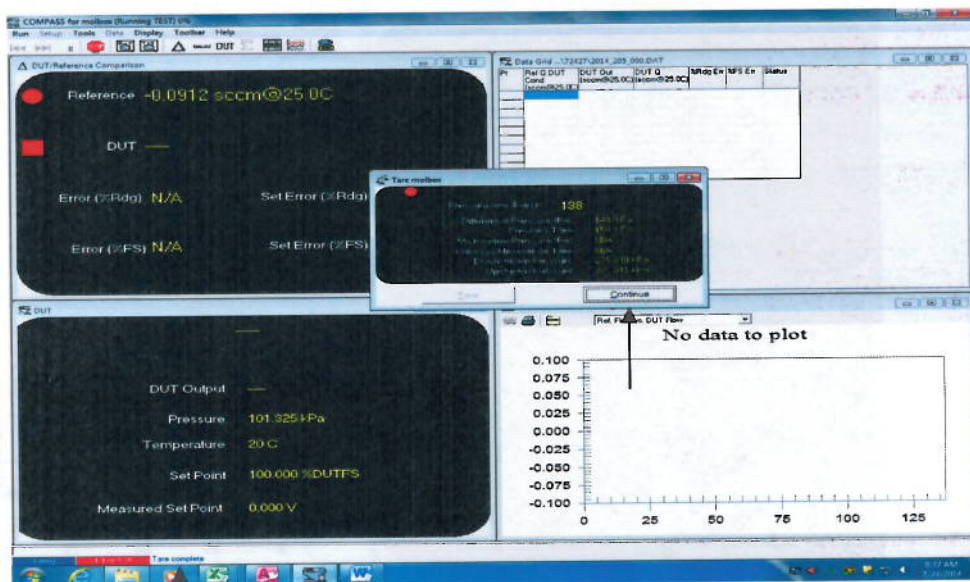

Figure 11
12.3.10 Monitor the status bar. When the status bar indicates that the Tare is complete click on the “Continue” button. See Figure 11.